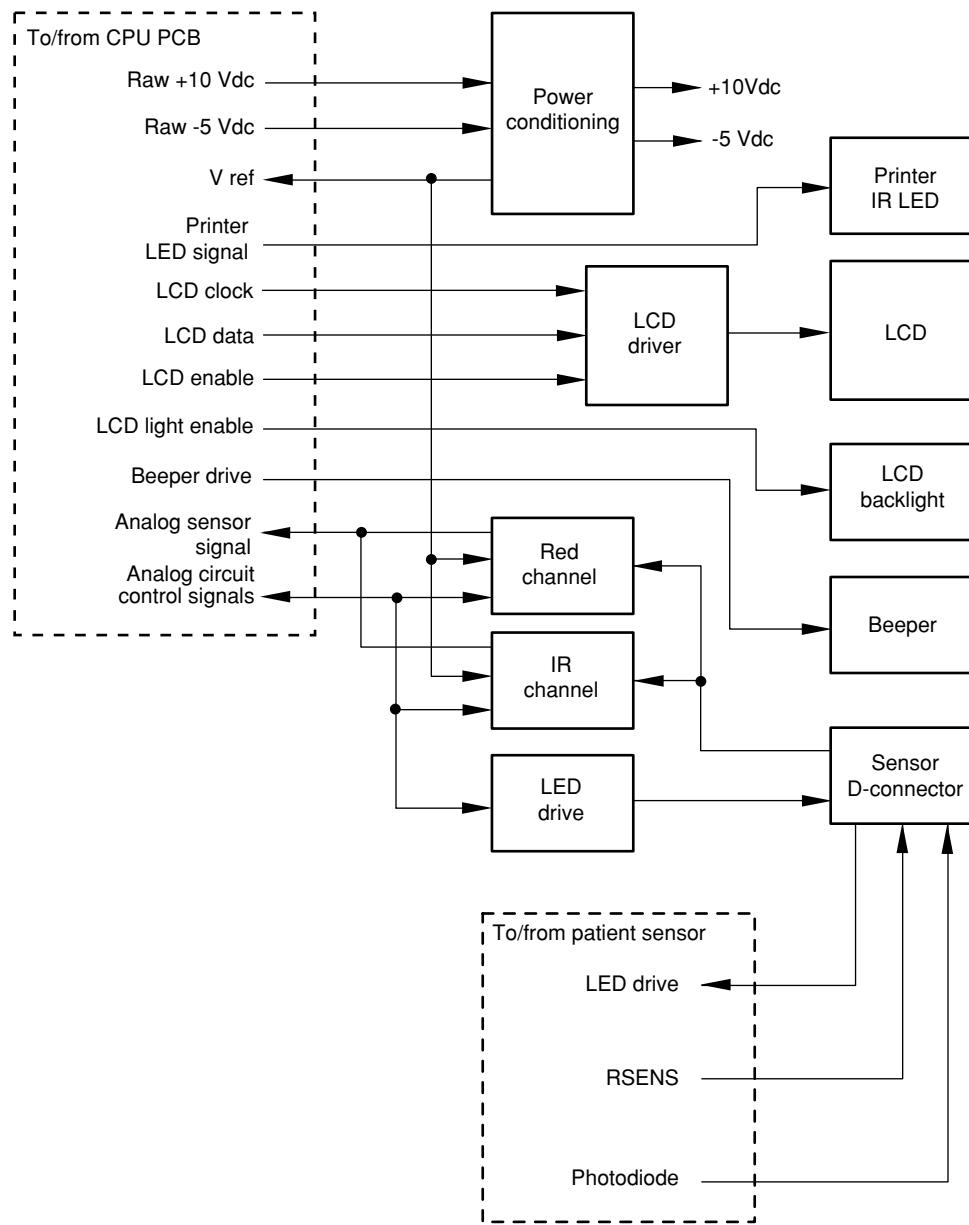

Figure S3-3: LCD PCB Block Diagram
- The LCD PCB block diagram (Figure S3-3) and schematic diagram (Figure S4-4).
Refer to Figure S3-3 for the LCD PCB block diagram and to Figure S4-4 for the LCD PCB schematic diagram in the following description. This subsection describes the SpO₂ analog hardware. The analog circuitry has high signal sensitivity and reduced susceptibility to noise. Its design allows for a wide range of input signal levels and a broad range of pulsatile modulation. The SpO₂ analog circuitry consists of four subsections:
The relationship between these subsections is shown in the LCD PCB block diagram, Figure S3-3.